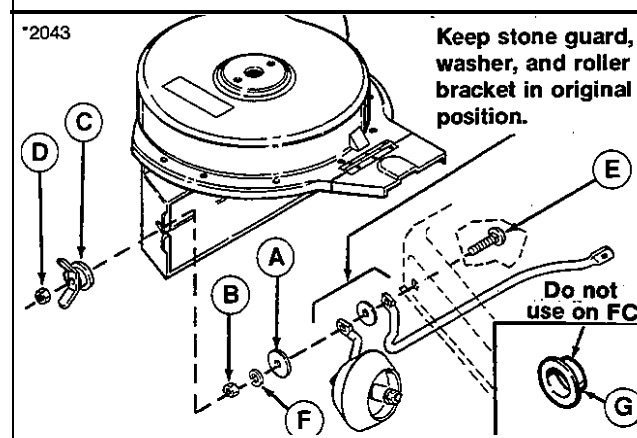

Figure 7.
- b. From inside deck, install new 5/16-18 x 2-1/4 carriage bolt (E, figure 7) through deck, stone guard, washer, and roller bracket. Then install the large washer (A), lockwasher (F), and nut (B).
- c. Thread the wing nut (C) far enough onto the screw so that the 5/16 locknut (D) can be threaded on flush with the end of screw.